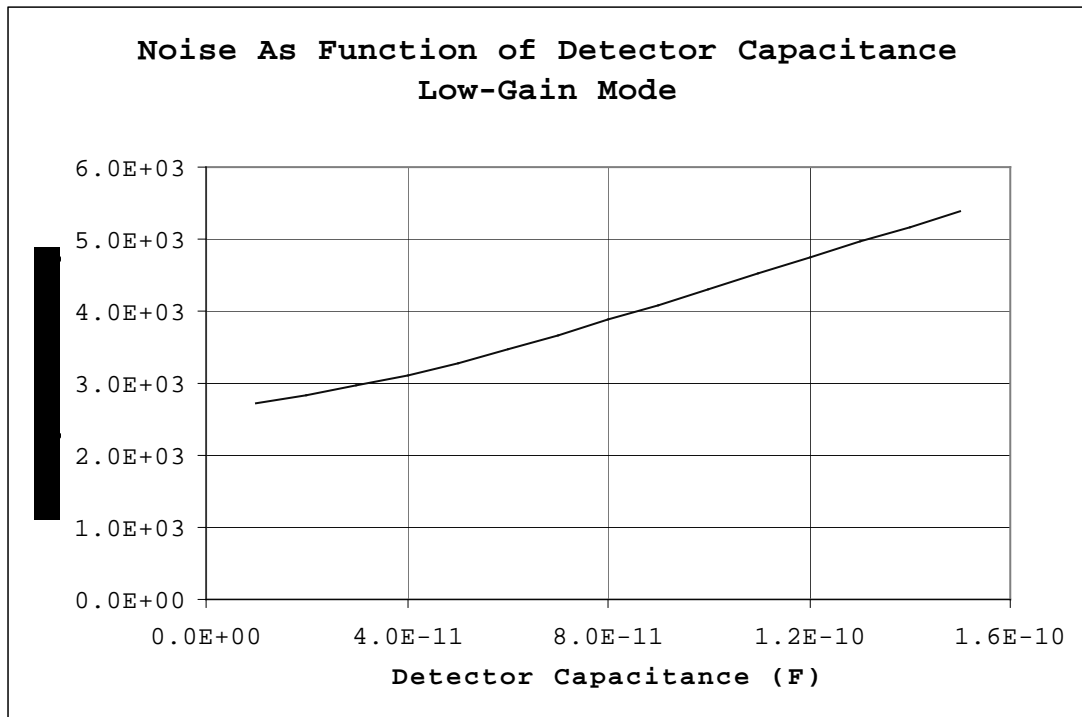

Figure 8: Noise Performance of CSA (low-gain mode) Versus C_{det}
- Figure 8: Noise Performance of CSA (low-gain mode) Versus C_{det}
The noise performance of the CSA (high-gain mode), as a function of detector capacitance, is depicted in Figure 8. The slope of the curve is approximately 20 electrons per pF. The graph represents the total integrated noise in a bandwidth of 10 KHz to 1 MHz (roughly the bandwidth of the shaping filter).